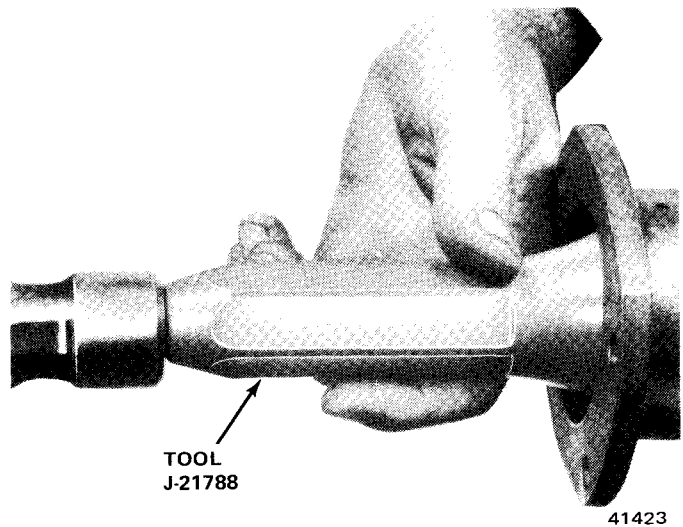

Fig. 10-21 Installing Inner Seal
(1) Press axle shaft bearing(s) onto axle shaft(s) with small diameter of cone toward outer tapered end of shaft using Bearing Replacing Tool J-2995.
(2) Coat outer surface of seal metal retainer with nonhardening sealer.
(3) Install inner oil seal with Axle Shaft Seal Installer J-21788 (fig. 10-21).
(4) Install axle shaft(s). Align splined end with differential gears.
(5) Install outer bearing cup.
(6) Inspect brake support plate for elongated bolt holes. Replace support plate if necessary.